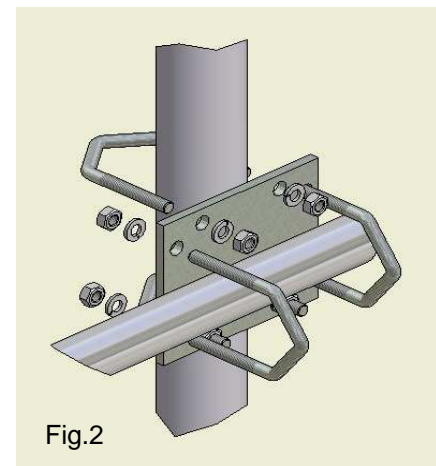

Fig.2
- STEP 2. Mount support boom onto mast using cross - over plate "UP" arrow facing upwards. **(See fig.2)**